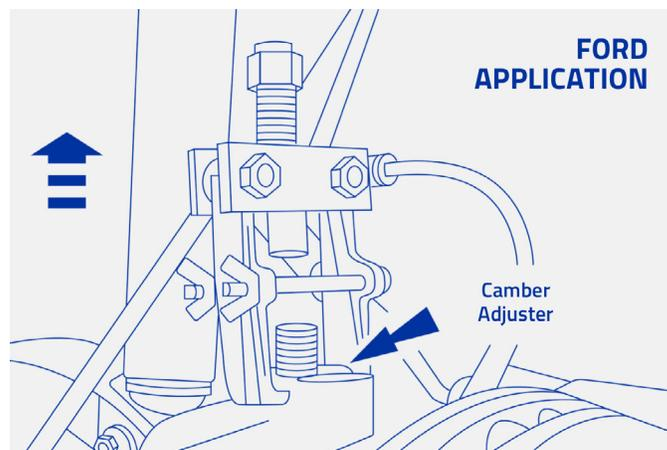

Figure 4
Step 6 – On Ford applications, use the Ford service tool to remove the camber adjuster bushing (also called camber/caster plug). Note its position. (Figure 4)